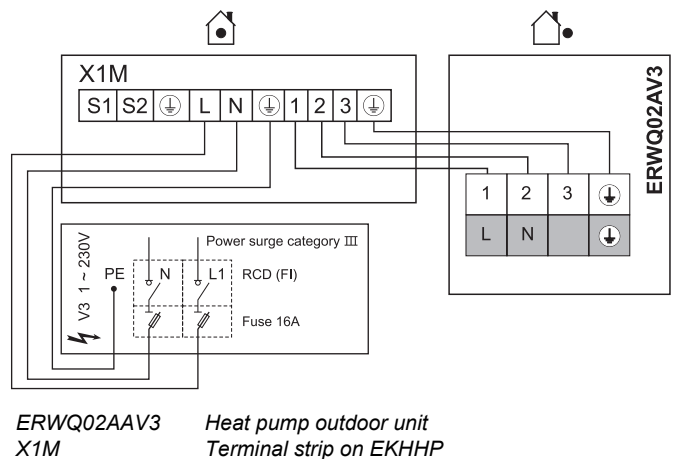

Fig. 3-11 DAIKIN EKHP mains connection
- 6 Connect the DAIKIN EKHP to the heat pump outdoor unit (see fig. 3-11).
- 8 Connect the power supply cable for the booster heater to DAIKIN EKHP (see fig. 3-11).
- 9 Connect the cable for the power supply of the booster heater to the distribution box of the house installation (see fig. 3-11).